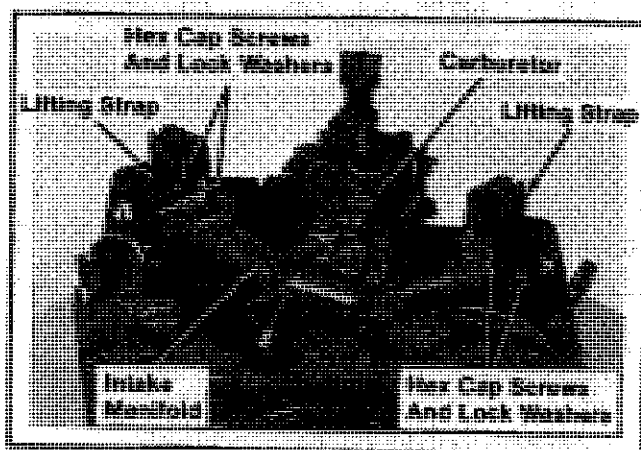

Figure 11-47. Installing Intake Manifold And Carburetor.
4. Install the gaskets, intake manifold with carburetor, lifting straps, split lock washers, and hex cap screws. Torque screws to 150 in. lb. Refer to Figure 11-47.